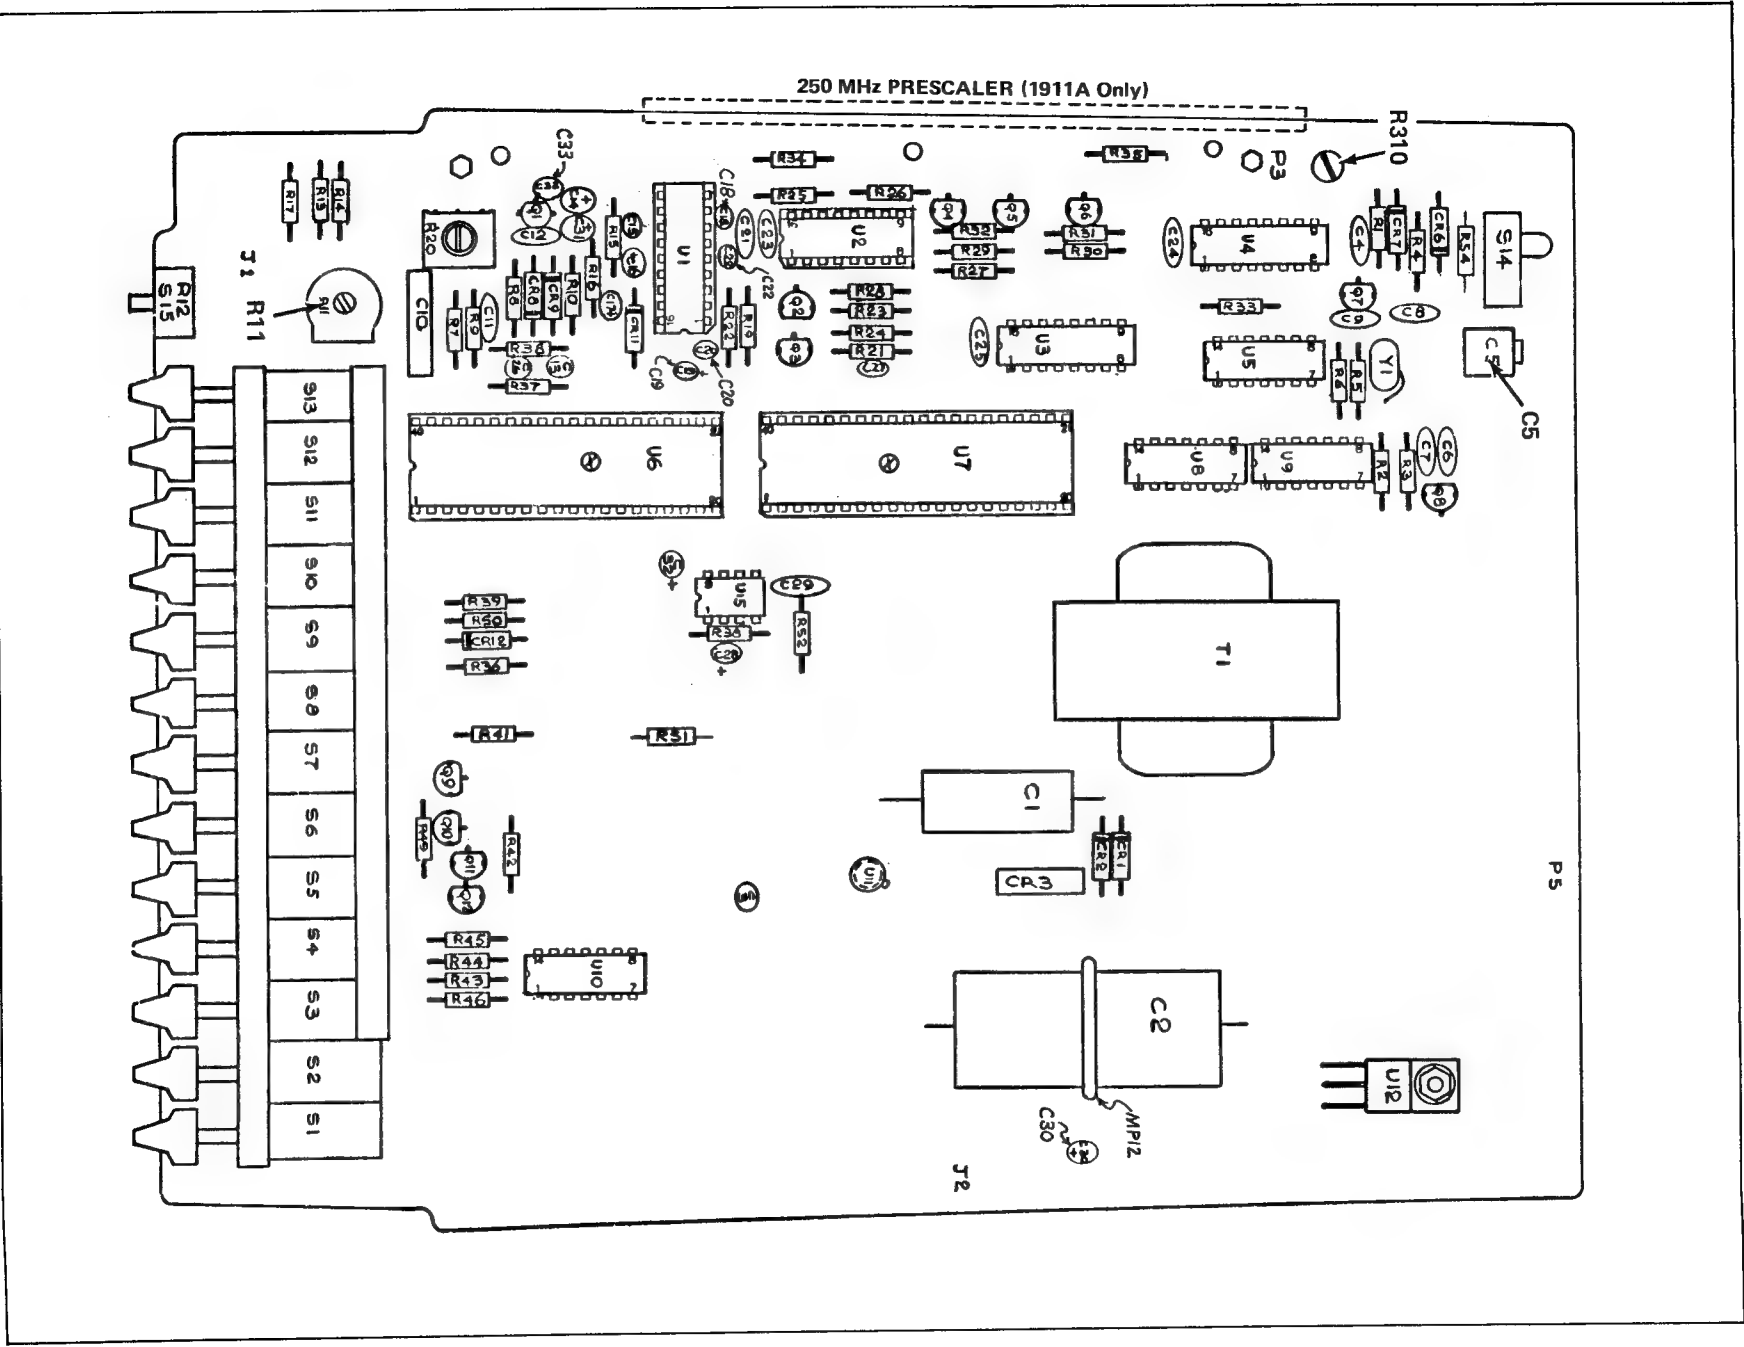

Figure 4-1. Main PCB (Top View)
6. Reduce the input level until the display becomes unstable and then try to adjust R11 (internal trigger level, see Figure 4-1) for the reference reading as noted in step-4.
5. Set threshold trimpot (R310) on prescaler PCB to maximum counter clockwise position (see Figure 4-1).
4. While observing the counter display, adjust the time base oscillator control (C5 located on the rear panel (see Figure 4-1) to obtain a reading of 000000 ± 5 digits.